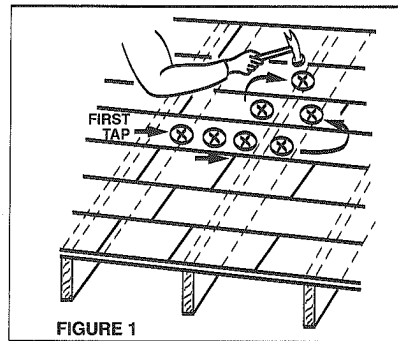

FIGURE 1
4. Install (2) anchors. Mount and plumb mast foot. For plumbing mast foot, refer to section 1B, page 9.
5. Referring to Figure 1, measure and mark brace anchor locations. Then drill for anchors.
6. Assemble braces to anchor and mast. (Again see Figure 1). Check to make certain mast is plumb and adjust braces if required.
To locate rafter, tap roof using a hammer, moving in the sequence as shown in Figure 1 until a sharp thud is heard, indicating rafter location. The sound changes when tapping roof from a hollow thump to a sharp thud as hammer blows approach rafter. If no distinguishable sounds are obtained, it may be necessary to move up or down the roof and repeat the above procedure. After determining the general location of rafter, mark the spot and proceed to Step 2..